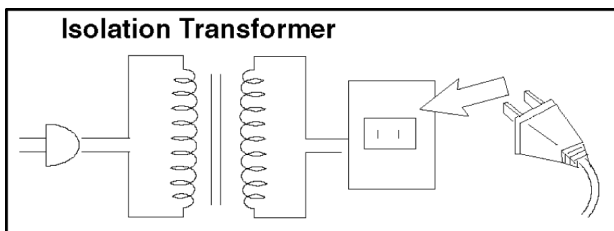

Fig. 1
1. It is advisable to insert an isolation transformer in the AC supply before servicing a hot chassis. Fig. 1.